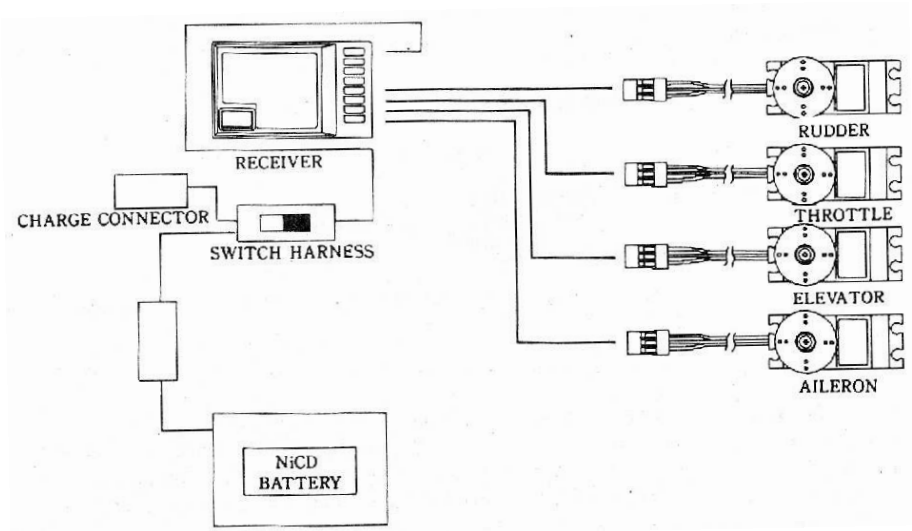

Fig 3
- Connect the servos, batteries and switch harness in accordance with fig 3. Carefully check to ensure that all connectors are properly seated.
- Turn the power switches "ON" and operate the transmitter. Observe the direction of travel of the control surfaces to see if they correspond to the control stick movement. Improper servo direction is corrected with the servo reverse dip switches, (fig 3)